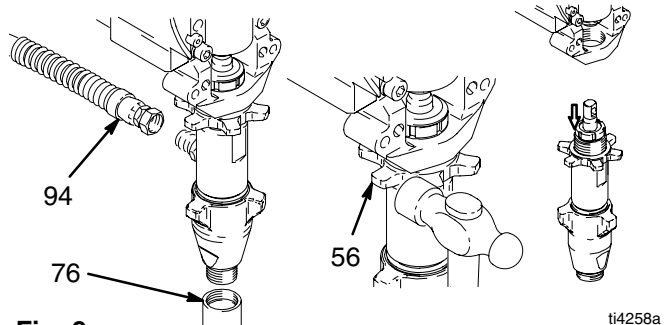

Fig. 9
5. Fig. 9. Remove suction tube (76), hose (94) and any washers and o-rings.
6. Loosen pump jam nut (56). Unscrew pump.
5. Fig. 9. Install washers, o-rings and suction tube (76) and hose (94).